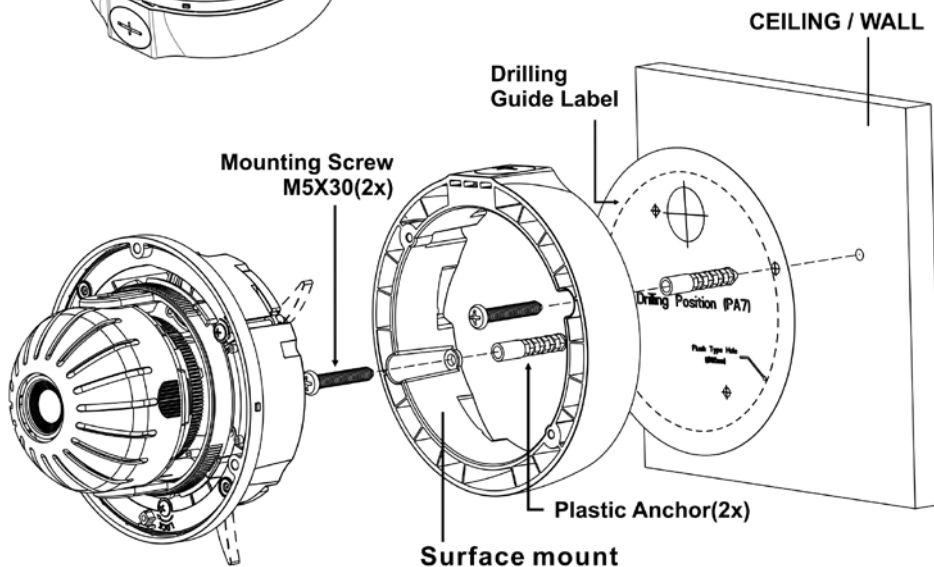

Figure 2
2. Drill the mounting location using the supplied drill guide label. **(Fig. 2)**
3. Attach the surface mount to the ceiling using suitable fasteners, M5x30 tapping screws are supplied only use if they are suitable. **(Fig. 2)**